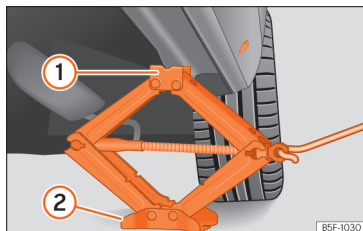

Fig. 249 Crossbar: mounting the jack on the vehicle.
- Turn the jack crank handle, located below the strut support point, to raise it until the tab ① >>> Fig. 249 is below the housing that is provided.
- Align the jack so that the tab ① "grips" onto the housing provided on the cross member and the mobile base ② is resting on the ground. The base plate ② should fall vertically with respect to the support point ①.